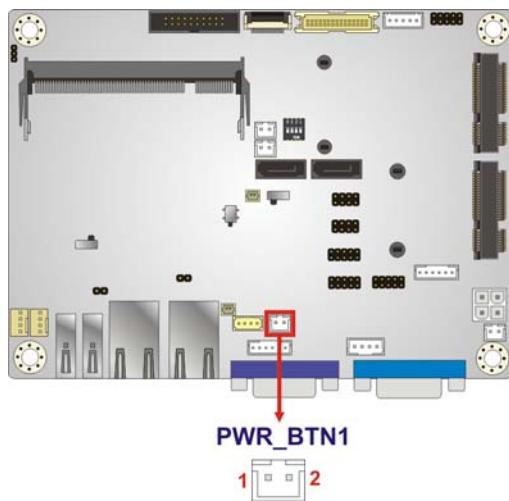

Figure 3-17: Power Button Connector Location
**CN Location:** See Figure 3-17